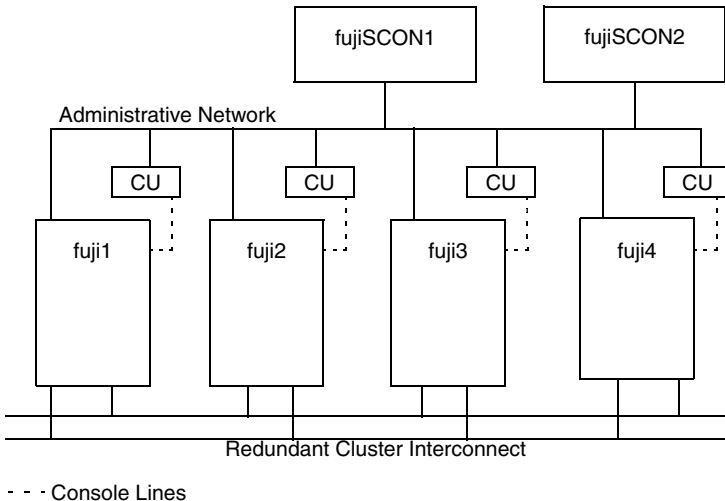

Figure 95: Distributed cluster console
A distributed cluster console configuration is one in which there is more than one cluster console and each cluster console has access to a selected subset of the console lines for the cluster nodes. Note that the console line for each cluster node may only be accessed by one cluster console. A distributed cluster console configuration is depicted in Figure 95.
i The conversion unit (CU) in Figure 95 represents a generic conversion unit, which is responsible for converting serial-line to network access and represents either the RCA or RCCU units.